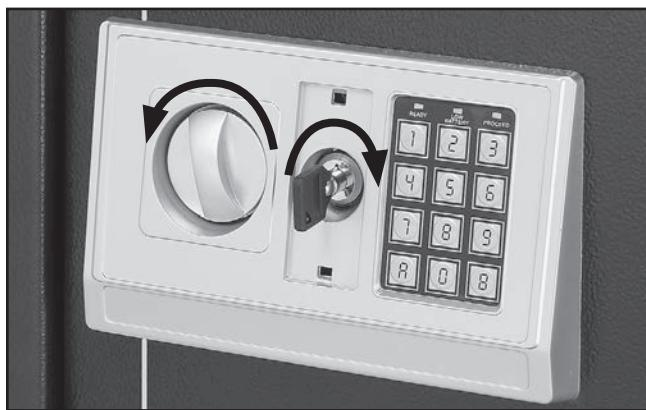

Figure 2. Using key to open safe.
2. Insert key into key hole (see **Figure 2**). Turn key clockwise and master knob counterclockwise at the same time.